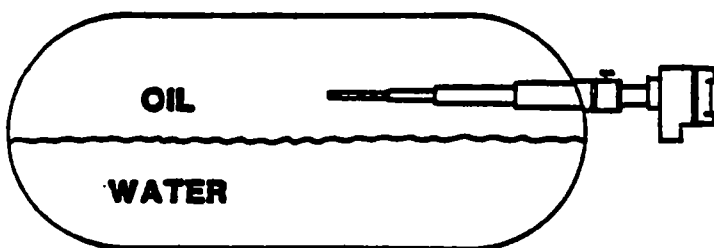

Fig. 3-6
A. Be sure the water (conducting lower phase material) level is well below the sensing element. See Figure 3-6.